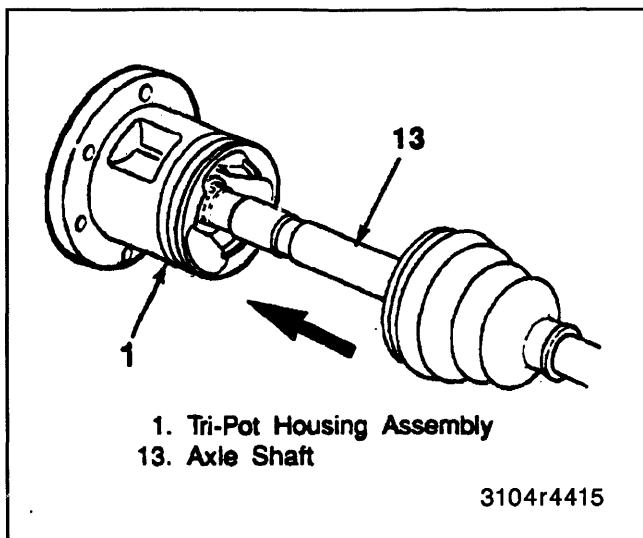
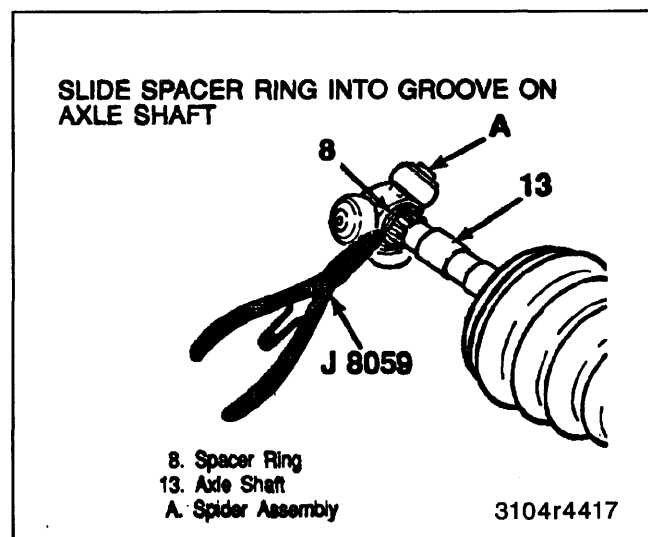
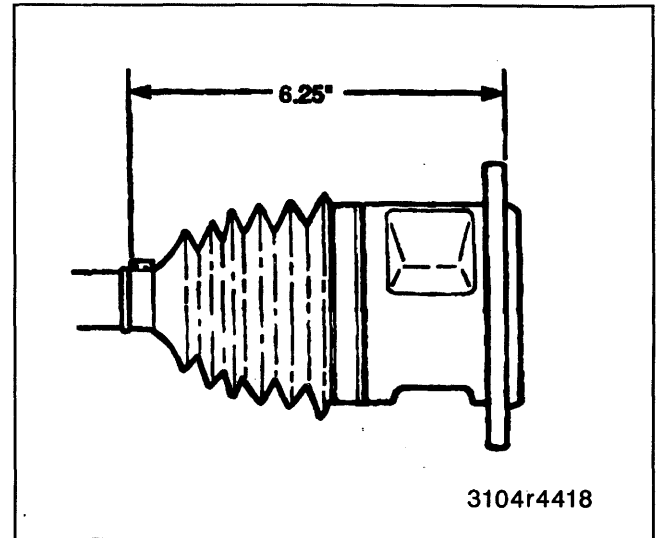

Figure 20—Installing Tripot to Housing
Figure 22—Installing Spider Assembly
Figure 23—Tripot Seal Installation Measurements
3. Spacer ring (8) on the front axle shaft (13) and beyond the second groove as shown in figure 22.
- Slide the tripot spider assembly against the spacer ring (8) and the shaft (13).
- Be sure that the counterbored face of the tripot spider (3) faces the end of the shaft (13).
4. Shaft retaining ring (2) in the groove of the axle shaft (13) with J 8059.
5. Slide the tripot spider (3) towards the end of the shaft (13) and reseal the spacer ring (8) in the groove on the axle (figure 22).
- A. Place approximately half of the grease provided in the seal (10) and use the remainder to repack the tripot housing (1).
6. Pinch the swage ring (9) by hand slightly to distort it into an oval shape and slide it onto the large diameter of the seal (12).
7. Slide the tripot housing (1) over the tripot spider assembly on the shaft (13) (figure 20).
8. Slide the large diameter of the seal (10) with the large swage ring (9) in place over the outside of the tripot housing (1) and locate the seal lip in the housing groove.
9. Position the tripot assembly at the proper vehicle dimension as shown in figure 23.